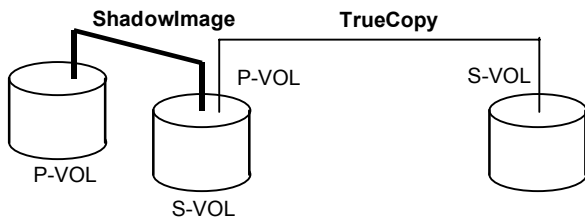

Figure 3.18 Shared ShadowImage S-VOL/TrueCopy P-VOL
- Figure 3.18 shows an example of a ShadowImage S-VOL which is also used as a TrueCopy P-VOL. **Caution:** This configuration requires that the ShadowImage pair be established in duplex mode (PAIR) and then split (PSUS) before the TrueCopy pair is created.